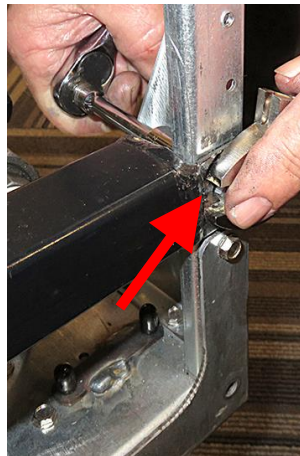

Figure 35
39. Remove far right nut and bolt, as viewed from the rear of the fryer, attaching the return oil manifold to the frame (see Figure 35).